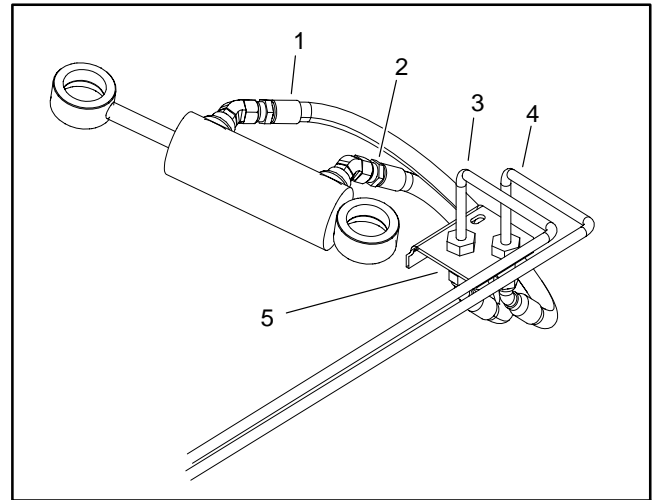

Figure 9
7. Disconnect both steering cylinder hydraulic hoses from hydraulic tubes at rear frame mount (Fig. 9). Remove bulkhead locknuts that secure steering cylinder hydraulic tubes to rear frame mount. Separate tubes from frame mount.
8. Attach steering cylinder hydraulic tubes to rear frame mount with washers and bulkhead locknuts (Fig. 9). Install steering cylinder hoses to hydraulic tubes.